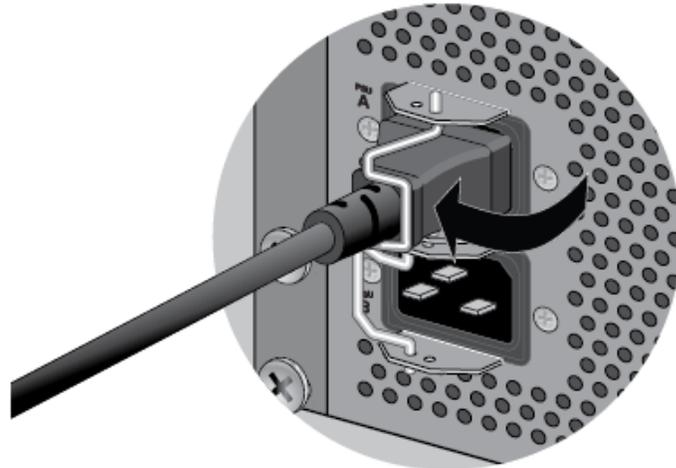

Figure 97. Securing the Power Cord with the Retaining Clip
2. Move the retaining clip over the power cord to secure the cord to the chassis. Refer to Figure 97.